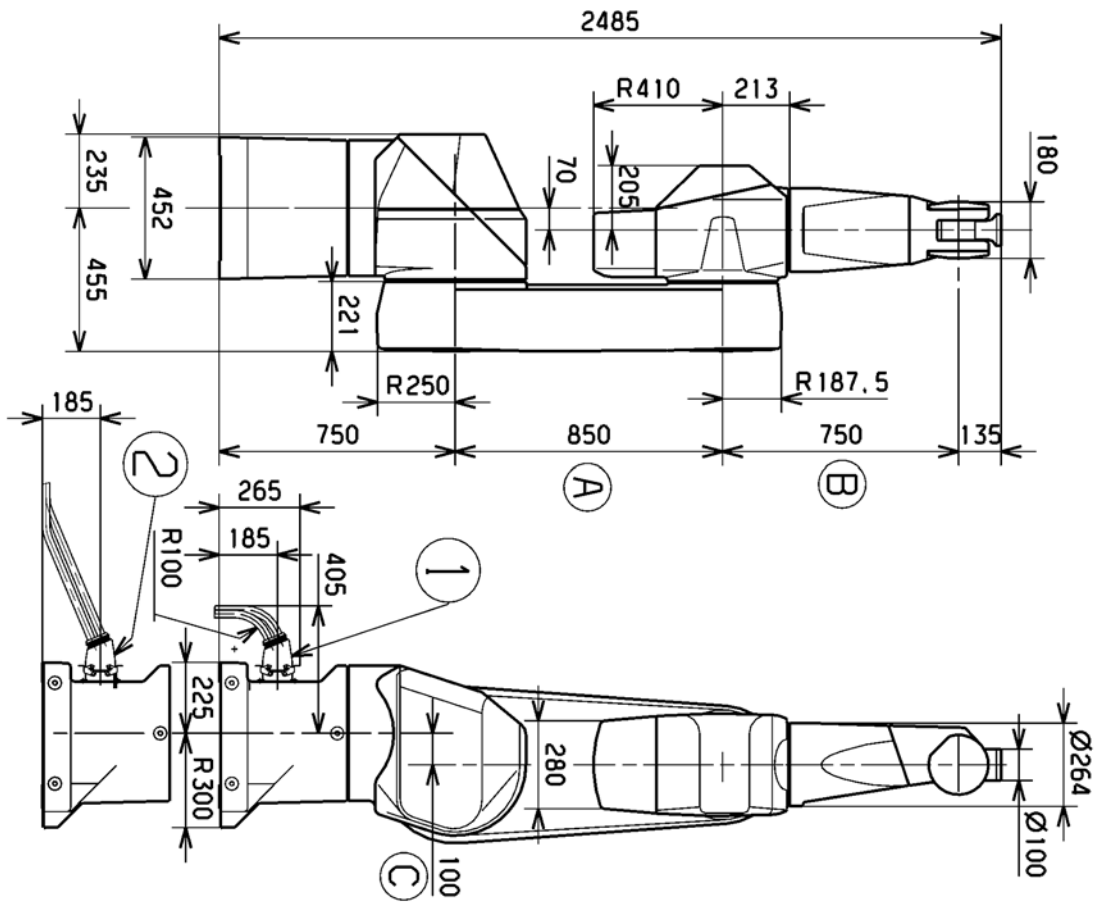

Figure 1.2
Standard arm: for arm with standard geometry **(figure 1.2)**.
1.3.1. OVERALL DIMENSIONS (figures 1.2 and 1.3)
- ① Vertical cable outlet
- ② Horizontal cable outlet